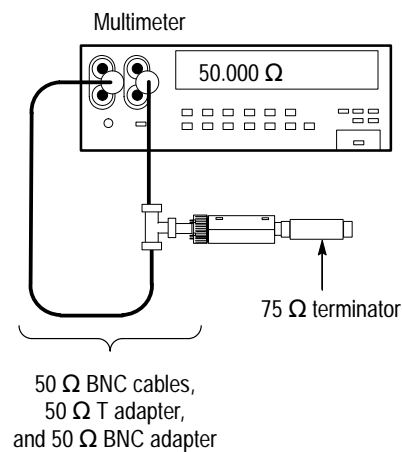

Figure 4: Test setup for output impedance
2. Connect the AMT75 adapter as shown in Figure 4.